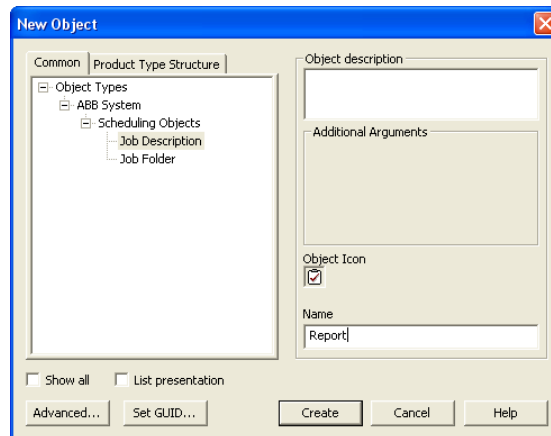

Figure 185. Naming of the Job Description Object
4. Select **Job Description** and assign the new Job Description object a name. See Figure 185.